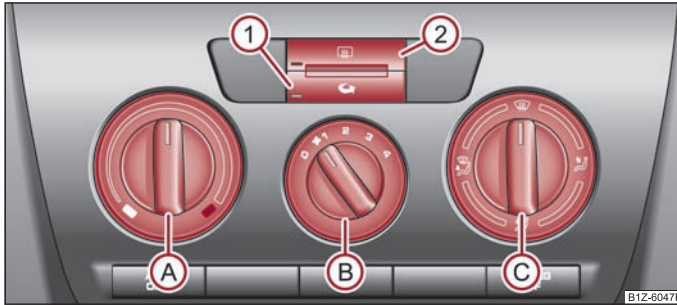

Fig. 81 Heating: Control elements
- Turn the control dial (A) ⇒ fig. 81 to the right in order to increase the temperature.
- Turn the control dial (A) to the left in order to decrease the temperature.
- Press the button . The warning light in the button  $\Rightarrow$  page 71, fig. 81 goes out.
The recirculated air mode is switched off automatically if the air distribution control  is in position   $\Rightarrow$  page 71, fig. 81. You can also switch recirculated air mode on again from this setting by repeatedly pressing pushbutton .